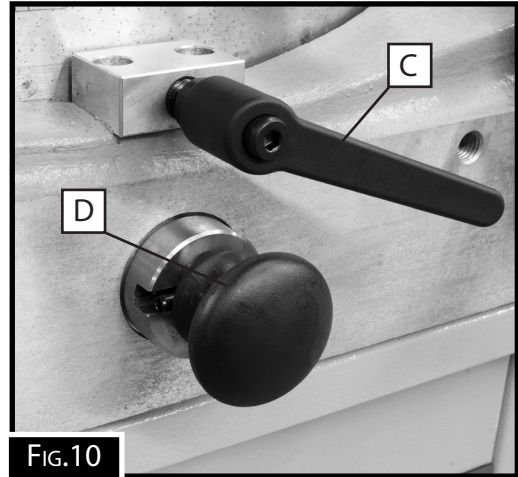
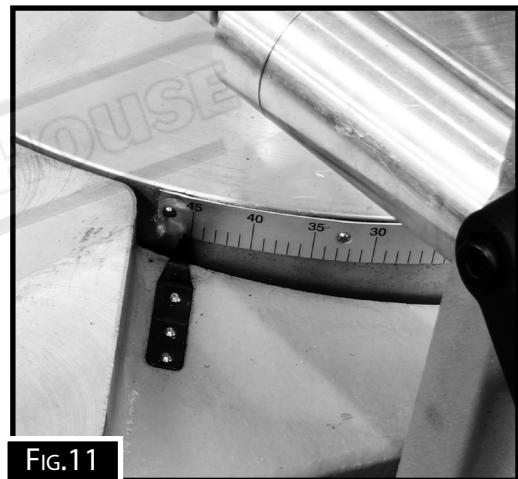

FIG.10
FIG.11
1. Release the lock lever (C in Fig 10).
2. Pull out the locating pin (D in Fig 10) and move the saw motor arm by rotating the turntable.
3. When the fixed pointer, located on the base is indicating the required setting on the scale (Fig.11) (marked on the turntable), release the locating pin. (D in Fig.10) If the desired angle is one of the following angles, 15°, 22 1/2°, 30°, 45° or 90°, then the pin will locate in the preset position for that angle.
4. Once the angle has been set then tighten the lever lock (C in Fig.10) to prevent the turntable moving during the operation.